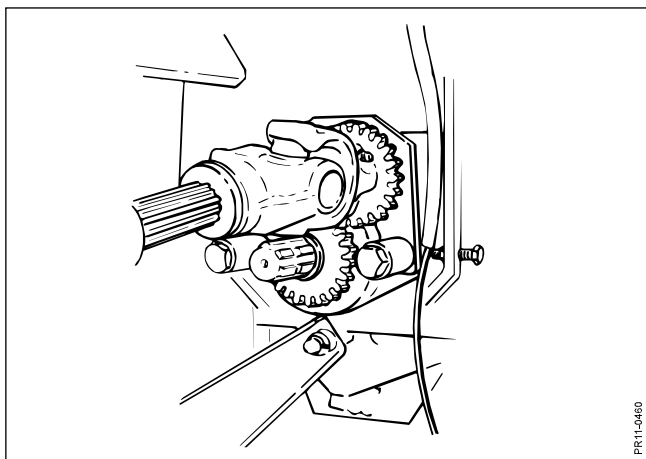

Fig. 4-27
- Fig. 4-27** 4. Mount the PTO drive shaft for the rotor on the free pin on the rotor housing.